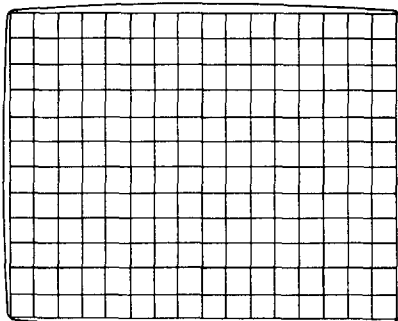

Figure 14. Crosshatch Pattern
2. Operate the computer in such a way that the entire screen is a crosshatch pattern (display period: 44.698 μ S horizontal, 14.33 mS vertical) on the center of the CRT screen. (Fig. 14)
2. Apply the crosshatch pattern (Fig. 14) from the computer to the display monitor. Observe spacing between lines around the edges of the CRT.